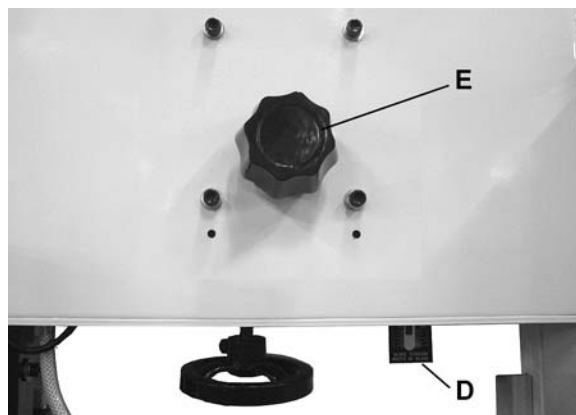

Figure 8
4. Use blade tension indicator (D, Figure 8) as reference only. Blade should be tensioned using the finger pressure method.
1. Turn blade tracking knob (E, Figure 8) clockwise to track blade toward front of blade wheel.